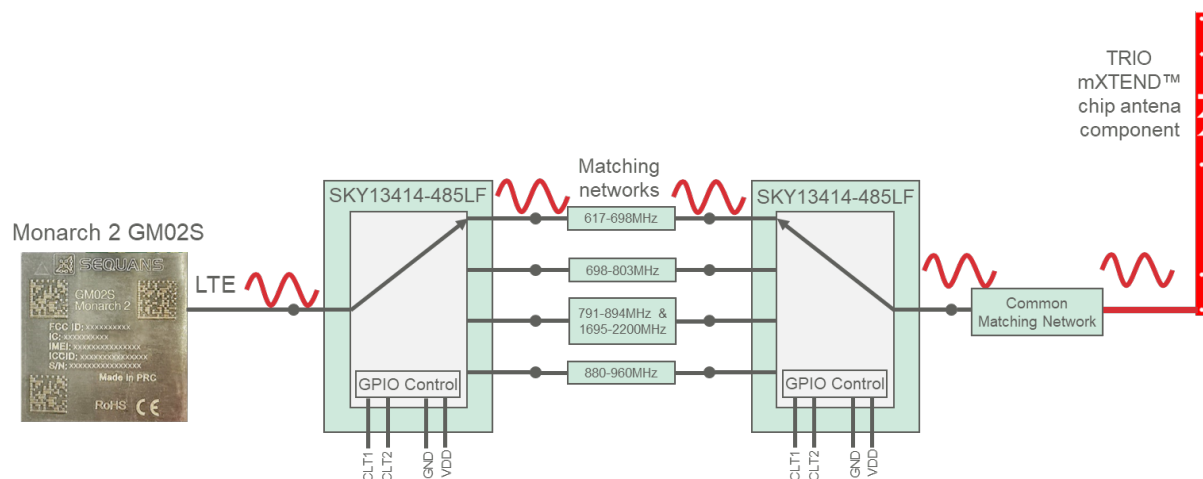

Figure 2 – Scheme for connecting TRIO mXTEND[™] chip antenna component and Monarch 2 GM02S
A reconfigurable matching scheme combining the TRIO mXTEND™ chip antenna component, the Monarch 2 GM02S LTE Cat M/NB₁/NB₂ module and the SKY13414-485LF from Skyworks enables operation at LTE bands (617MHz up to 2200MHz) (Figure 2).
5. **Transmission line and RF Chip:** Design your transmission line connecting one of the RF switches output to your RF chip (see scheme connecting in Figure 2) so that its characteristic impedance is 50Ω . The output impedance of your RF chip must feature 50Ω as well. Locate your RF chip as close as possible to the matching network in order to reduce the losses introduced by the transmission line.